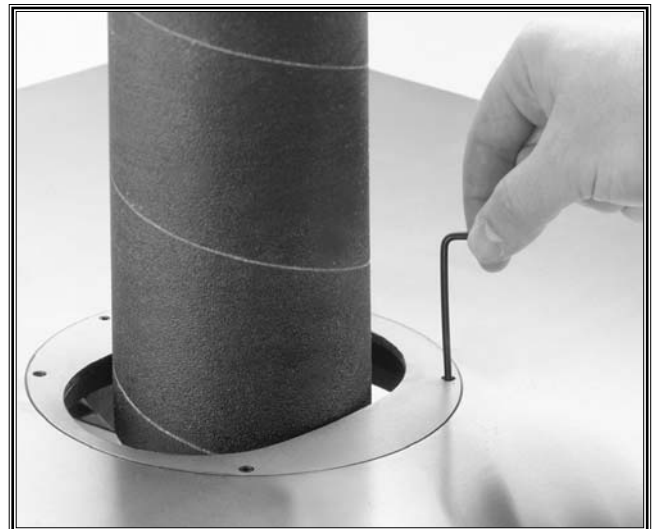

Figure 14. Adjust the setscrews to position the table insert flush with the table surface.
3. Adjust the setscrews shown in **Figure 14** so the top of the insert is flush with the table surface.